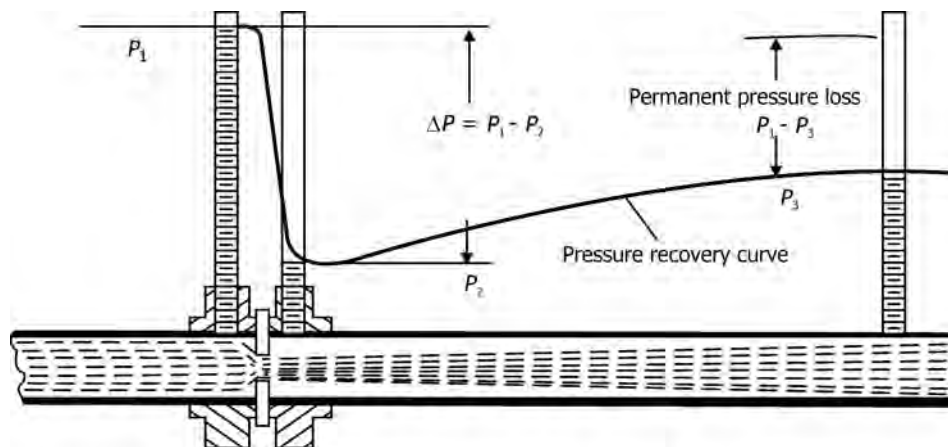

FIGURE 4.5 Sharp-edged orifice meter showing flow pattern with flange taps.
- Figure 4.5 illustrates installation and flow pattern for a sharp-edged orifice with flange taps.